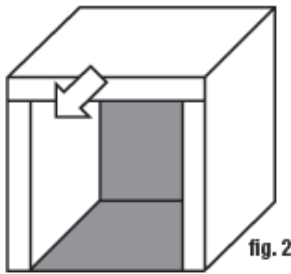

fig. 2
- Install the TUF COTE® TBK Faced Foam to the inside of the housing and over the vibration control tape (fig. 2).